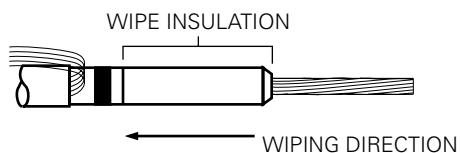

Figure 7. Line illustration of insulation cleaning.
- Clean insulation thoroughly with solvent dampened rag, wiping from conductor end toward insulation shield. (Refer to Figure 7.)